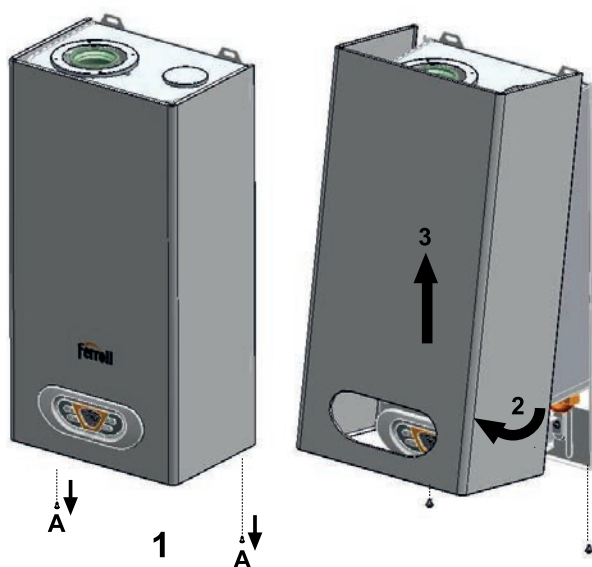

fig. 16 - Opening the casing
- 1 Unscrew the A screws (see fig. 16).
- 2 Rotate the casing (see fig. 16).